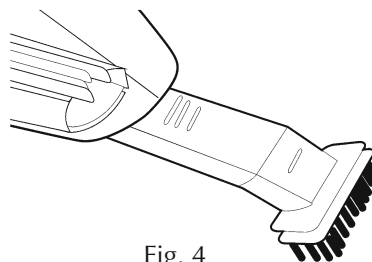

Fig. 4
- The brush attachment (8) (Fig. 4) cannot be attached directly to the appliance; insert it into the extension (6) if necessary.
3. Turn the appliance on by sliding the on/off switch (14) forward.
4. Make sure the suction opening (9) always points downwards during operation.
5. Turn the appliance off by sliding the on/off switch (14) backwards.